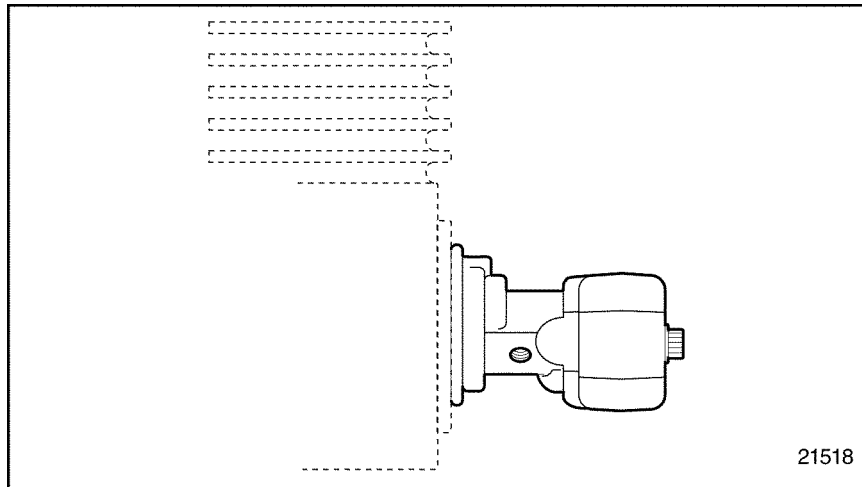

Figure 3-3 Fuel Pump Flange Drain Hole Location
1. Insert a piece of wire through the pump flange drain hole, see Figure 3-3.